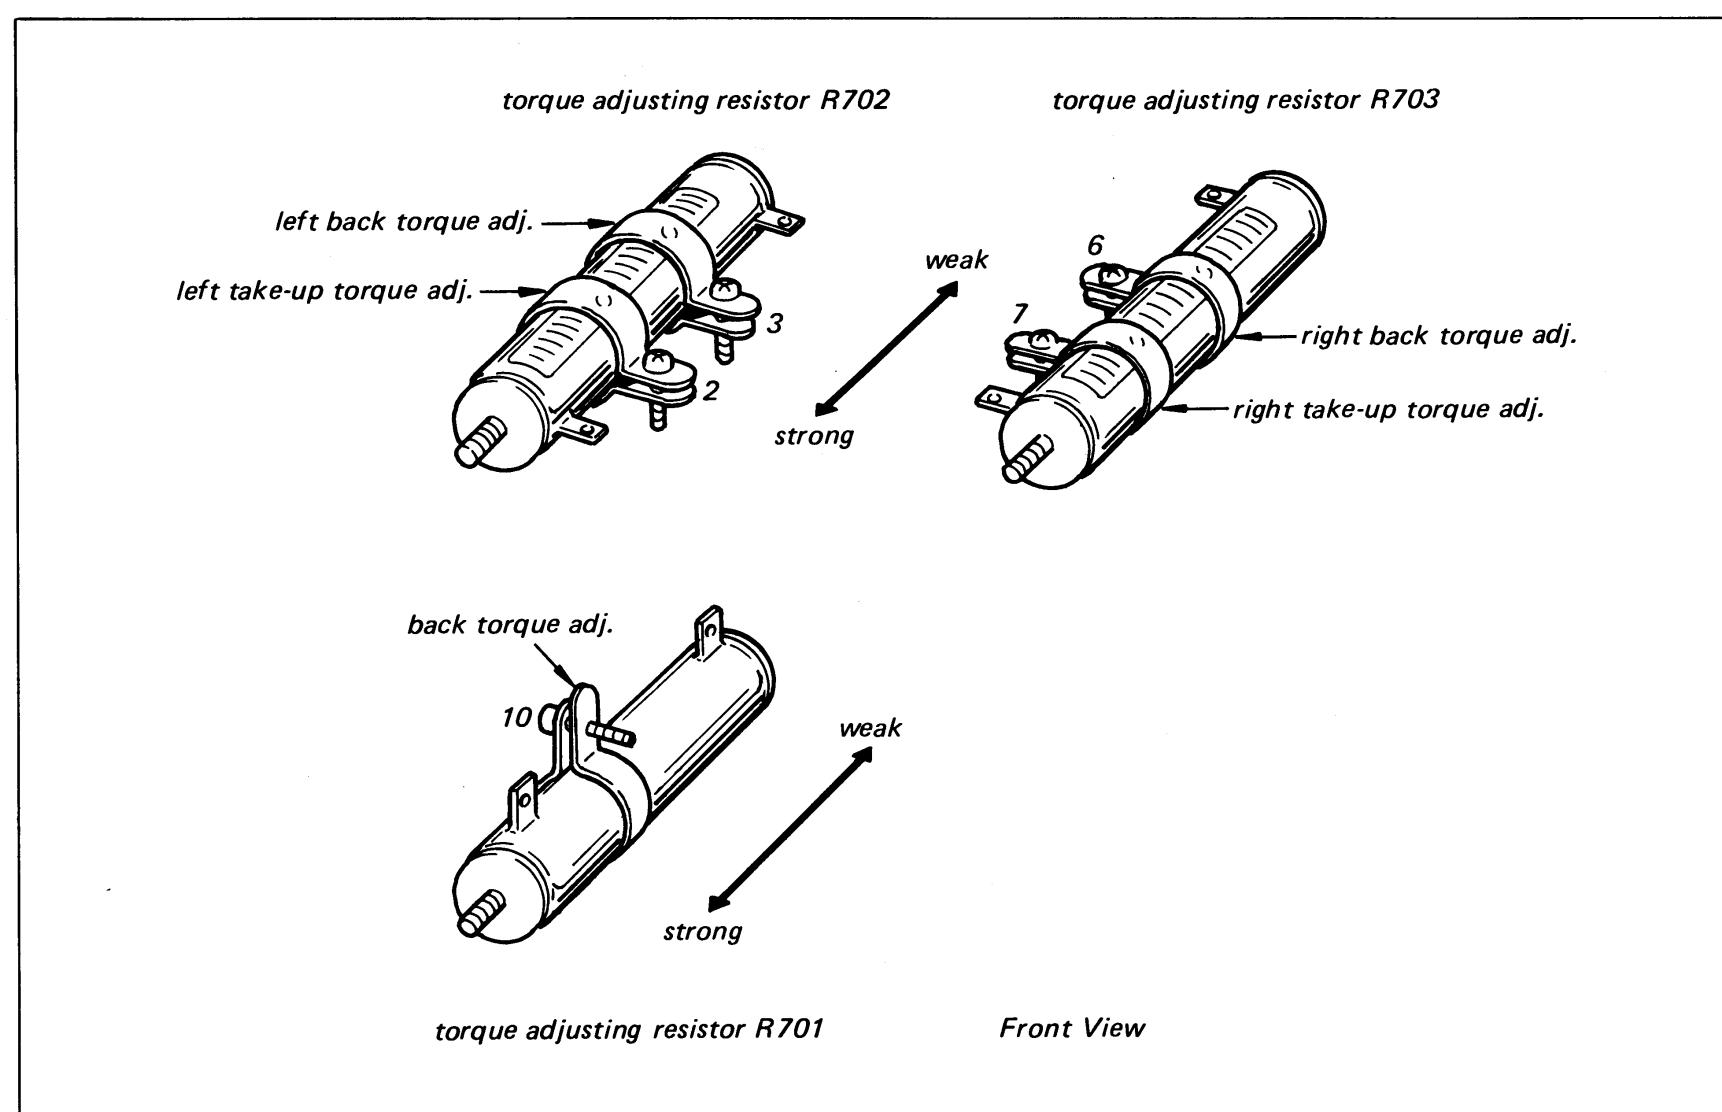

Fig. 3-3. Reel motor torque adjustment
- ① Left Back-Tension Torque Adjustment
- 4) Adjust a slider band 3 of the left torque adjusting resistor R702 (shown in Fig. 3-3) for a reading of 70 g.
- ② Right Back-Tension Torque Adjustment
- 4) Adjust a slider band 6 of the right torque adjusting resistor R703 (shown in Fig. 3-3) for a spring scale reading of 70 g.
- ① Left Take-up Torque Adjustment
- 4) Adjust a slider band 2 of the left torque adjusting resistor R702 (shown in Fig. 3-3) for a spring scale reading of 90 g.
- ② Right Take-up Torque Adjustment
- 4) Adjust a slider band 7 of the right torque adjusting resistor R703 (shown in Fig. 3-3) for a spring scale reading of 70 g.
- 2) Adjust the slider band 10 of torque adjusting resistor R701 (shown in Fig. 3-3) for a spring scale reading of 20 g.